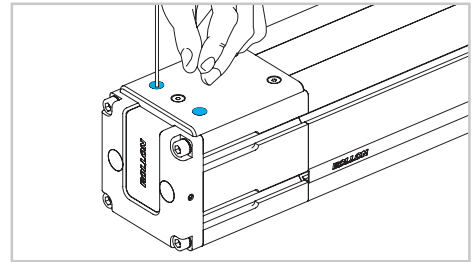

Fig. 3
- 2) Remove the cover from the idle head loosening only the 4 outer screws. (Fig.3).